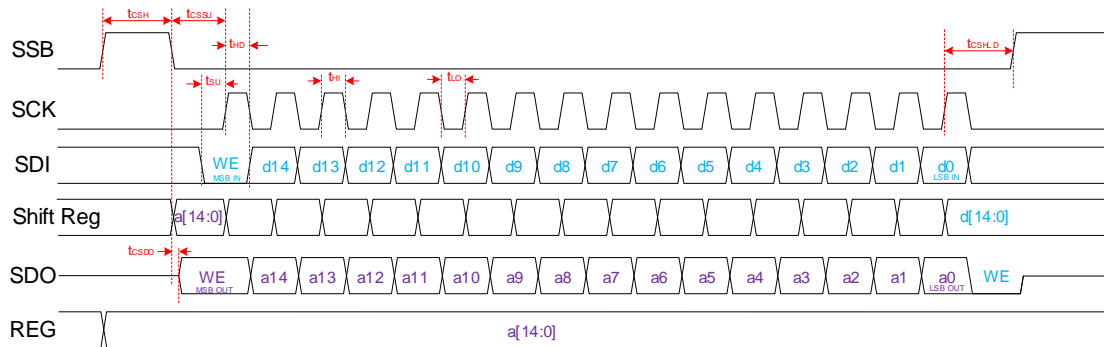
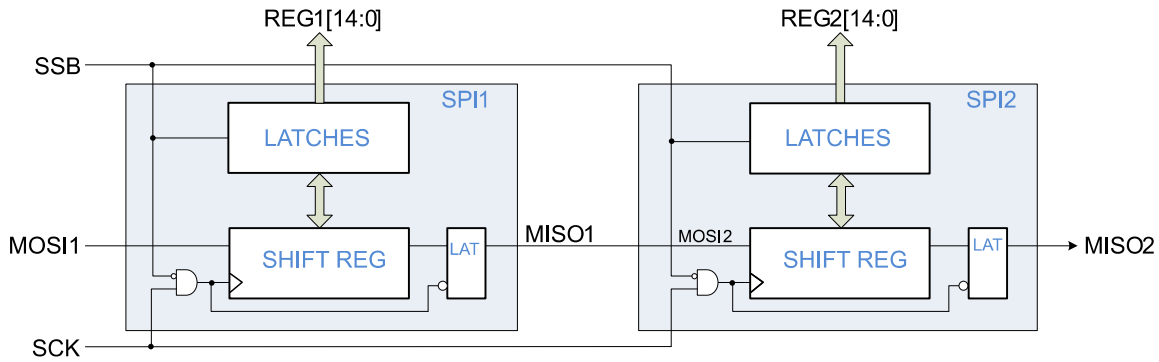
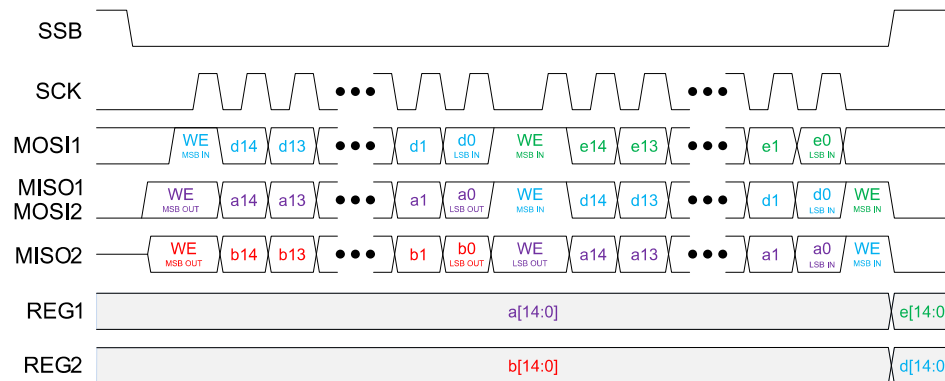

Figure 10. SPI Read Only (1 IC, No Daisy Chain)
Figure 12. SPI with 2 ICs Daisy-Chained
Figure 14. SPI Read & Write (2 ICs Daisy-Chained)
MODE = 0, activates the 16-Bit Serial Peripheral Interface (SPI) module for operation. Multiple devices can be daisy-chained to drive multiple ICs using one SPI bus (see Daisy Chain Operation, Figure 12, Figure, and Figure). The SPI works at any frequency up to a maximum of 33 MHz and may operate at significantly lower frequencies if the logic signals adhere to the data setup and hold requirements.
SPI timing diagrams are provided in Figures 10 to Figure 14. In SPI mode, data transmission starts when SSB goes Low, causing the Target to output the Most Significant Bit (MSB) of data to the SDO (MISO) pin. Data transfer from Host to Target takes place during the rising edge of the clock (SCK), which is idle when SSB is High. This mode of operation requires data for Host and Target to be present on SDI (MOSI) before the rising edge of the clock (defining SDI to SCK setup time). Data is pushed out of the SDO (MISO) pin during the falling edge of the clock. After the first 16-bit transaction, Host writes the latest data (DN) to Target, while Target passes its previous (DN-1) stored data to the Host. Data is latched into the internal
Daisy chaining the ICs is permitted and involves connecting the MISO of one chip to the MOSI of the next chip in the chain, as shown in Figure 12. SPI timing diagrams with daisy-chained devices are provided in Figure and Figure 14.